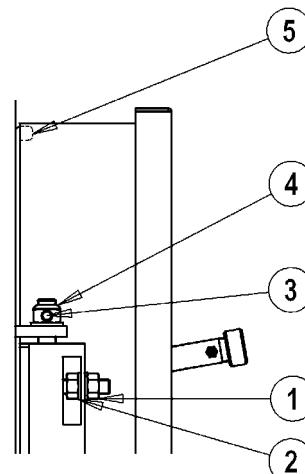

fig. 9
5.6.1 For models MEGAPREX 92N÷600N(Fig. 9)